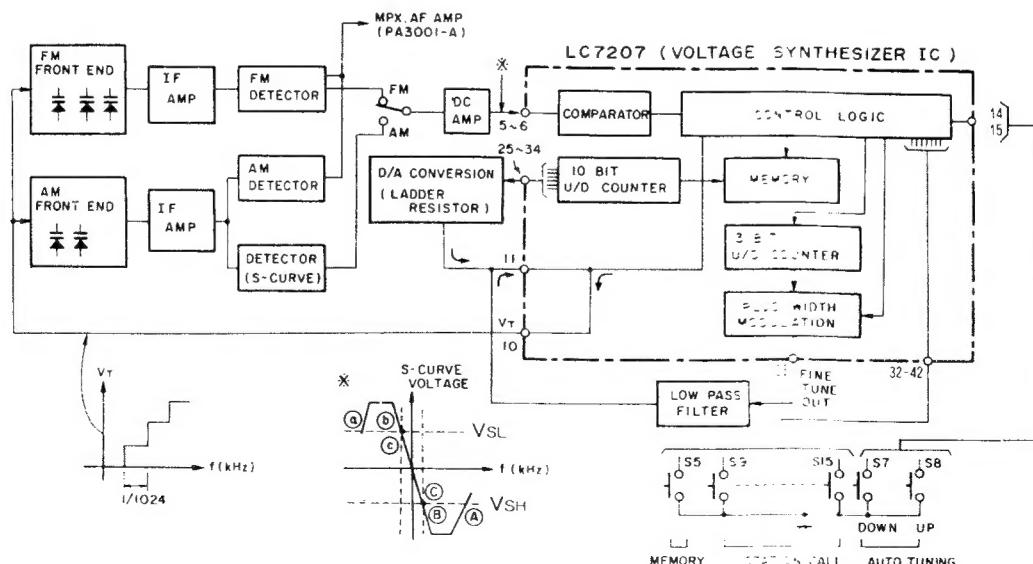

Fig. 4-4 Auto-tuning
- Auto-Tuning (Fig 4-4)
This V_T is progressively increased one step at a time, resulting in the tuning frequency also being increased stepwise. And when the frequency of a broadcasting station is approached, the S-curve voltage passes the V_{SL} a point as shown in Fig. 4-4. With further increases in the V_T voltage, the S-curve voltage starts to decline again, passing through point V_{SL} (b). Then with continued decrease, a counter voltage at V_{SH} (c) is encountered. After completing these 3 steps from (a) to (c), the auto-search mode is halted (rough tuning).
The AFC operation makes use of the S-curve characteristics (voltage) of the detector circuit during both FM and AM reception. In the AM circuit, a ratio detector S-curve generator circuit is used, an output being obtained with a sufficiently high enough gain from the DC amplifier (see Fig. 4-4).